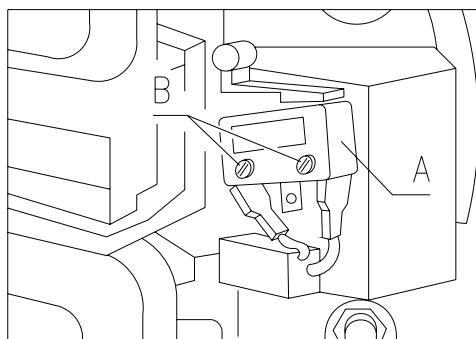

FIG. 17
8.8 REPLACING THE DELIVERY DOOR OPERATING BELT (FIG. 17)
8.9 REPLACING THE DELIVERY DOOR MICROSWITCHES FIG. 17 ⚒⚠